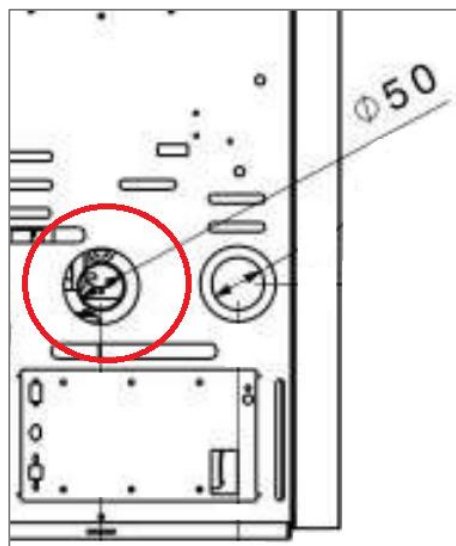

Figure 1
2. In the above case, it is mandatory that the combustion air supply for the stove be conducted from the outside. You can use pvc sleeves (rigid, flexible, etc.) with the same diameter as the stove mouth (see figure 1) and whose length does not exceed more than the thickness of the wall (approx. 30 or 50 cm).